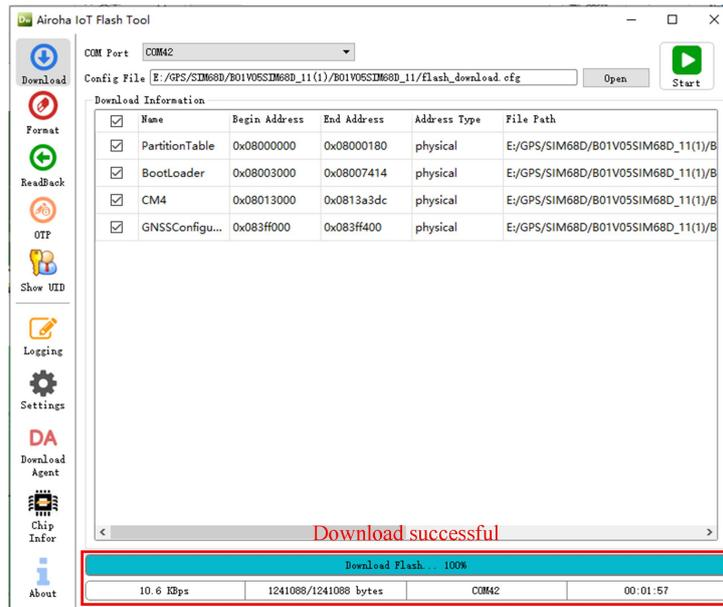

Figure 23: Download successful
3. Wait for a moment, and the download is successful as shown in Figure 23.